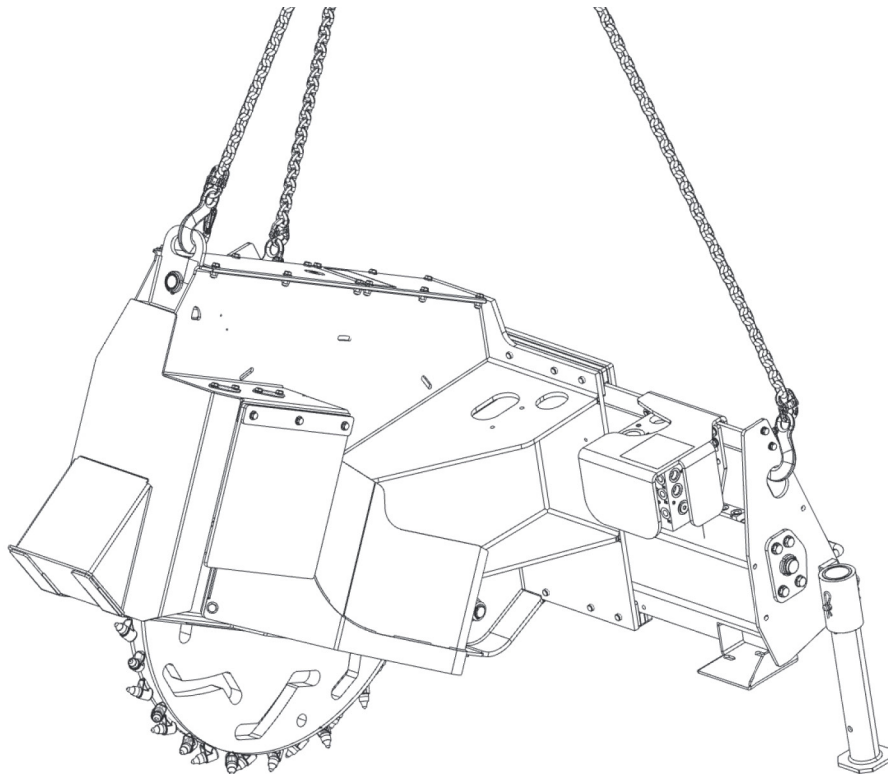

Figure 1
- Use a lifting crane or truck with a suitable capacity for the weight specified on the serial plate. Connect the cables or chains at the three (3) points shown with the relative stickers. (See Figure 1.) When lifting, use hooks or straps capable holding the road saw's weight.